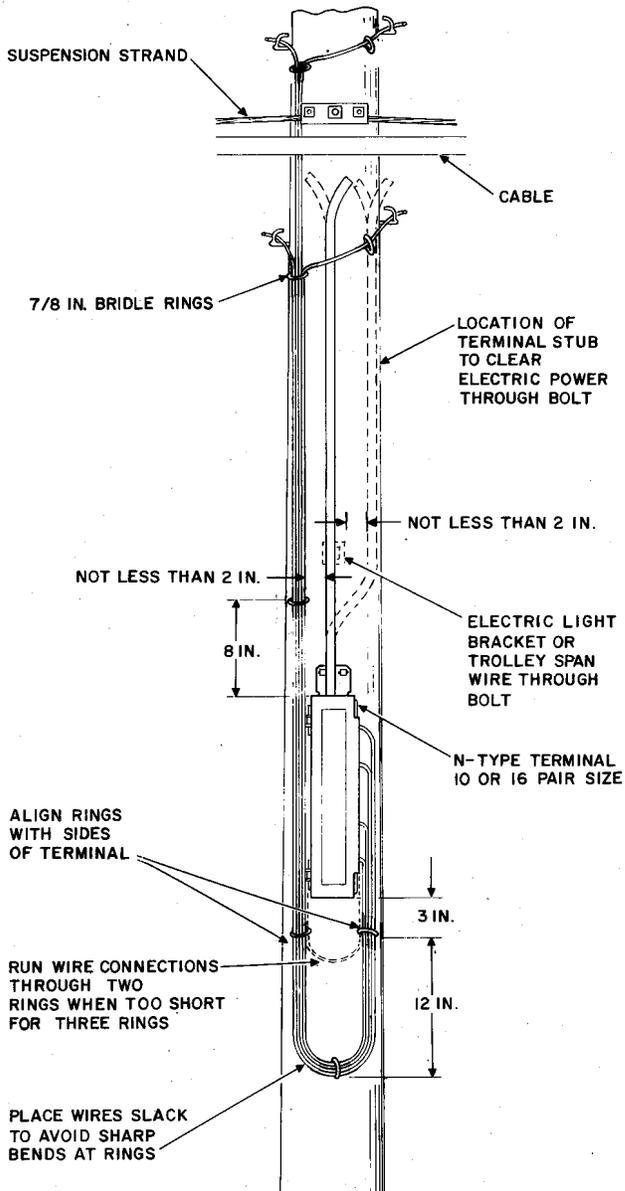

Fig. 11—Running Drop Wire To 10 or 16 Pair N-Type Cable Terminal Mounted on Pole
4.06 Refer to Fig. 11 and 12 for typical arrangements of drop wires at N-type terminals which are mounted on poles.